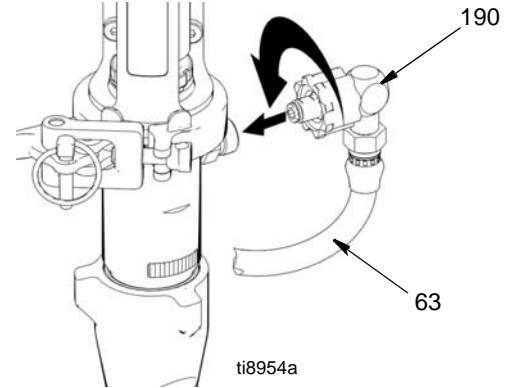

FIG. 26
- 7 (Fig. 26) Open clamp and align pump outlet with hose fitting (190). Install paint hose fitting (190) and paint hose (63) to pump connection, close clamp.